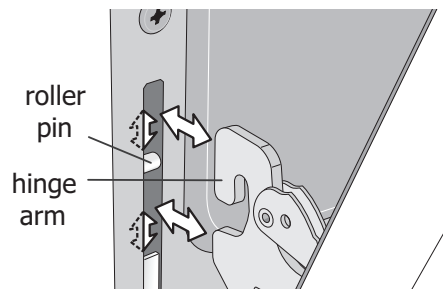

Figure 12: Remove (and replace) door
4. Pull the bottom of the door toward you while rotating the top of the door toward the appliance to completely disengage the hinge arm from the roller pins. (Figure 12).